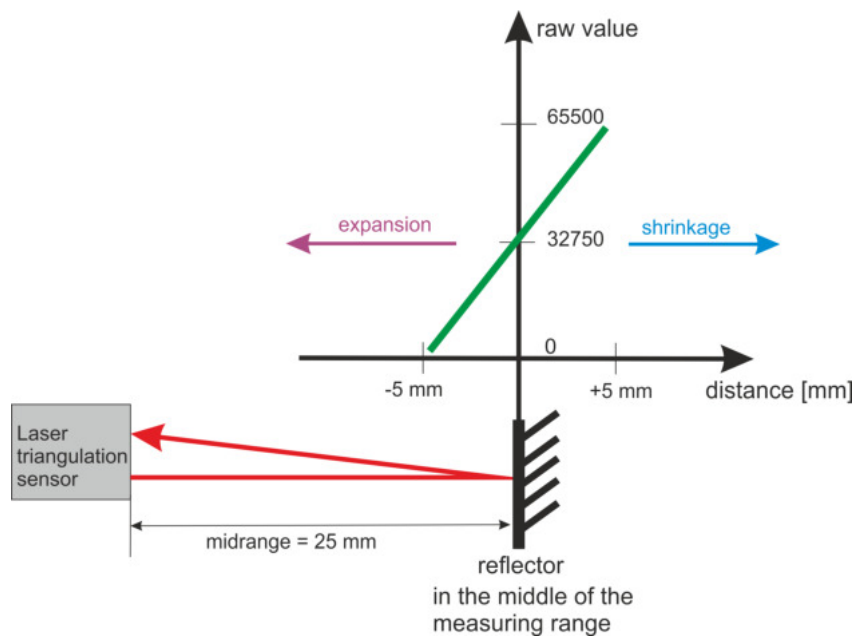

Figure 13: Adjustment of the LASER triangulation sensor for TLMS
The LASER triangulation sensor has to be placed in the middle of the measuring range which is about 32750 of raw value (Fig. 13). The procedure for the finding of the correct sensor position should be performed as follows:
- The raw value from the LASER beam should be approximately 32500 - 33000 which means the reflector is placed in the middle of the measurement range of the LASER sensor (Fig. 13).